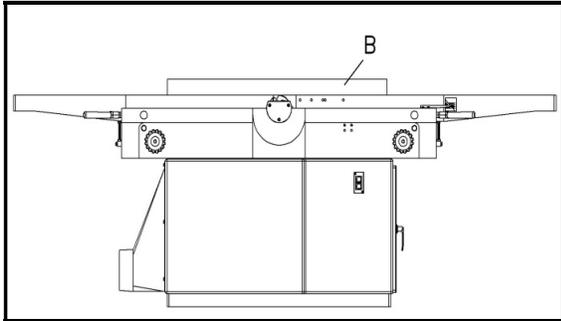

Fig.10
3. Place a straight gage (B) on the outfeed table, extending over the cutterhead as shown in Fig. 10